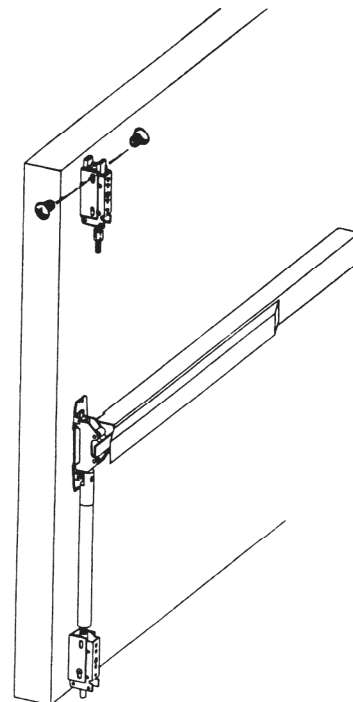

Figure 8
- Mount top latch assembly into mounting bracket. (See Figure 8.)